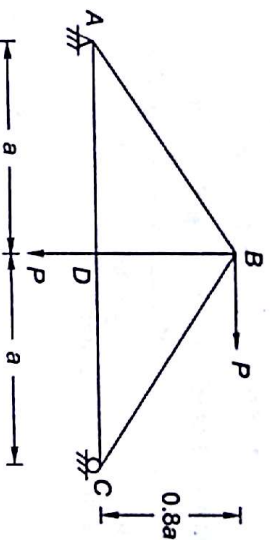

Fig. 3.60
3.3 A truss ABCD, carries horizontal and vertical loads as shown in Fig. 3.60. What is resultant reaction at A?